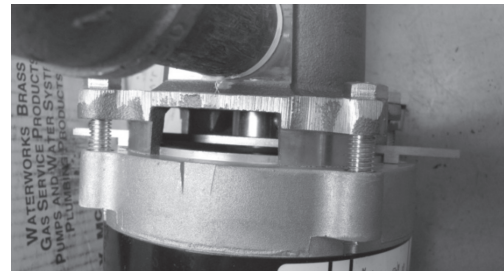

Figure 3 Assembled Booster Pump with Gage
7. Figure 3 shows a booster pump and motor adapter with gage in place for correct positioning of shaft extension.